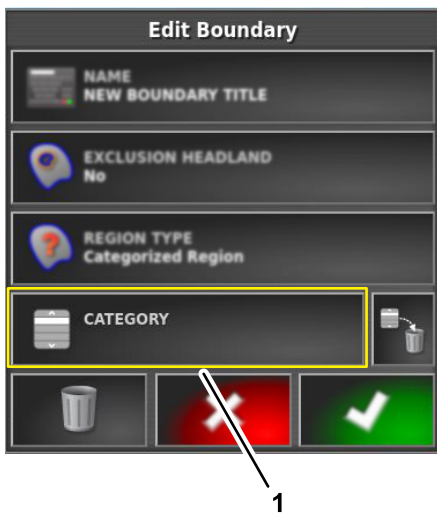

Figure 65
3. In the edit boundary dialog box, press the CATEGORY icon to display a list of category types (Figure 65).